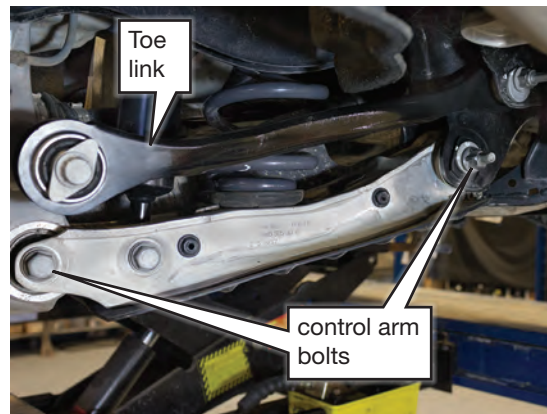

fig. D.1
2. Remove the toe link (Fig. D.1).
3. Loosen the bolt connecting the lower control arm to the knuckle. (Fig. D.1).
4. Support the lower control arm nearest the subframe and remove the inner cam bolt that connects the lower control arm to the subframe (Fig. D.1).